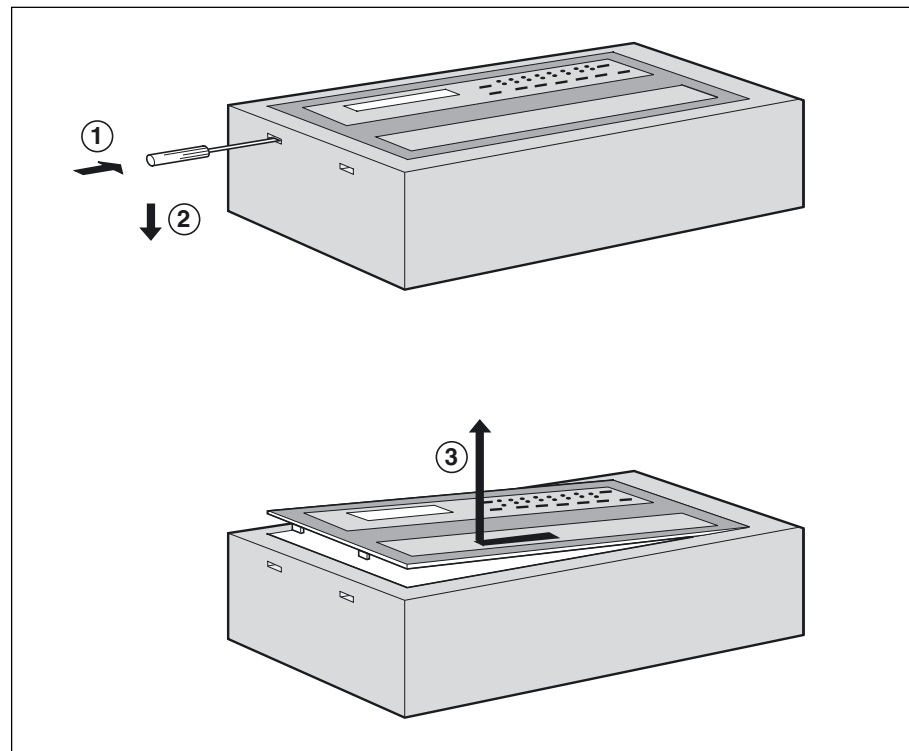

Fig. 5
▶ insert the tip of a flat screw driver (max. diameter 4mm) at least 3 cm into one of the small slots on the left side of the enclosure (1 in figure 5) and pry up to loosen the control panel (2 in figure 5);
▶ lift up the left side of the control panel and slide it towards the left to completely free the panel (3 in figure 5);